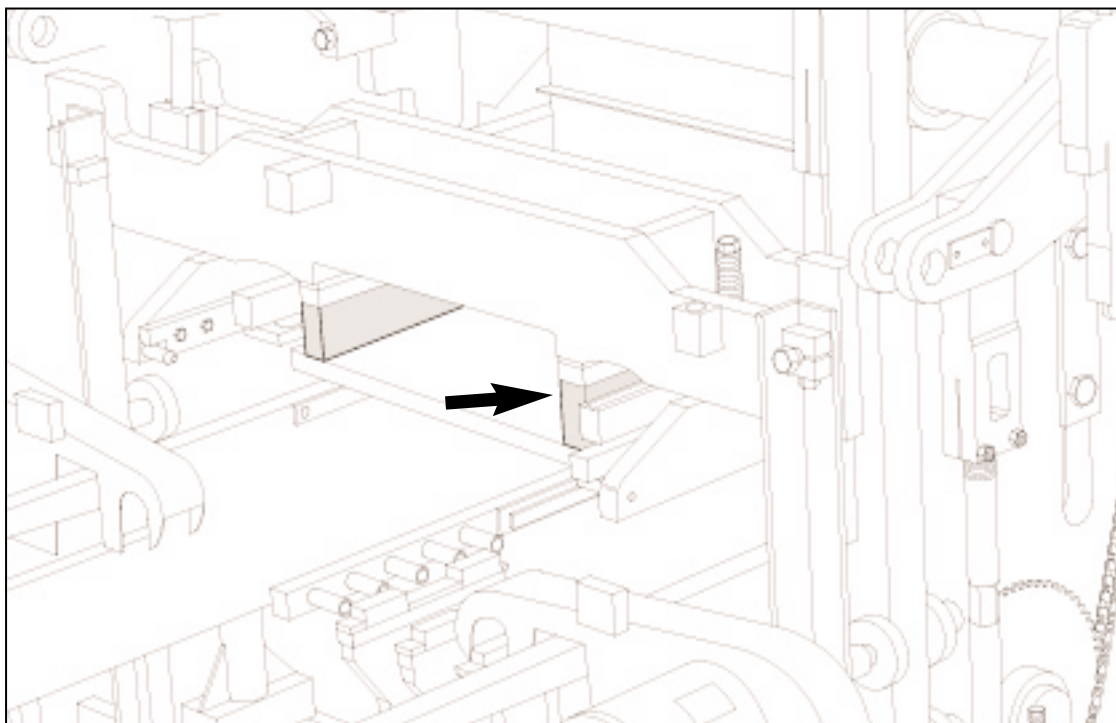

Figure 4.49 95mm [3 3/4"] BLOCKING UNDER STRIPPER HEAD FRAME.
- 4.3.10 The SUPERPAC is now ready for the installation of the mold assembly. Follow the directions for installing an attachment in section 5 of this manual. When installing the stripper head use **279mm [11"]** long bolts (**part #087136**) and insert **95mm [3 3/4"]** of blocking in addition to the **38mm [1 1/2"]** blocks already affixed to the stripper head frame (figure 4.49).